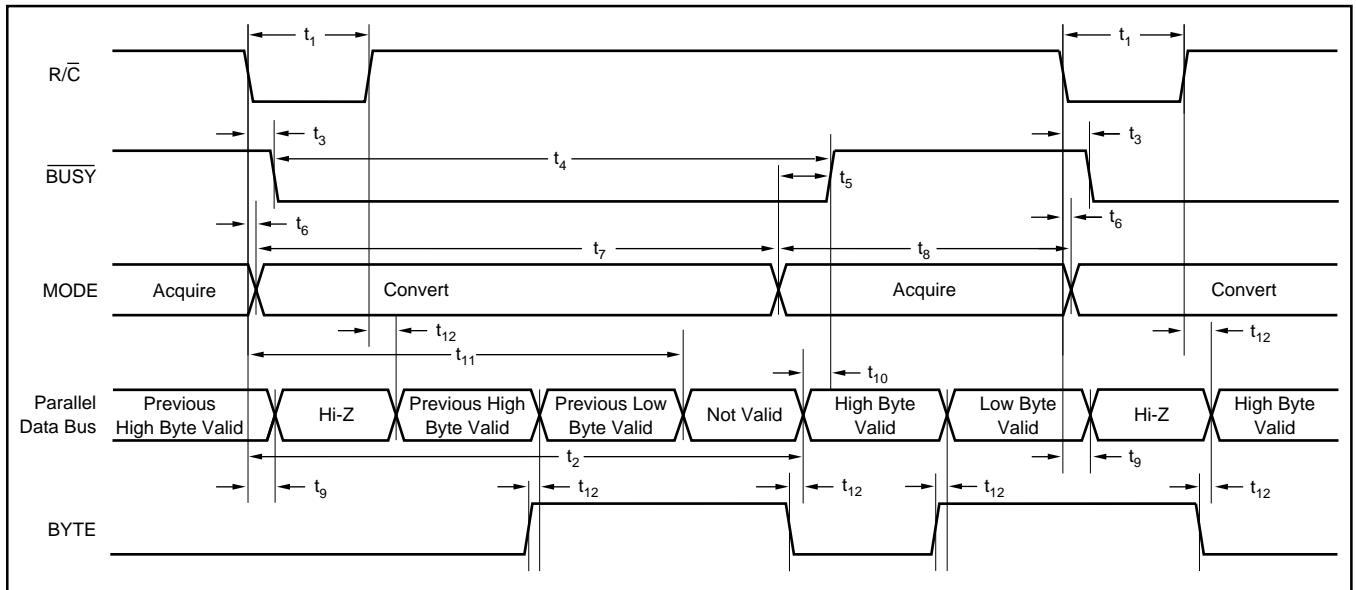

FIGURE 2. Conversion Timing with Parallel Output ($\overline{\text{CS}}$ and DATACLK tied LOW, $\overline{\text{EXT/INT}}$ tied HIGH).
The ADS7806 will begin tracking the input signal at the end of the conversion. Allowing 25µs between convert commands assures accurate acquisition of a new signal. Refer to Tables II and III for a summary of CS, R/C, and BUSY states, and Figures 2 through 6 for timing diagrams.
NOTE: (1) See Figures 2 and 3 for constraints on data valid from conversion 'n - 1'.
After conversion 'n' is completed and the output registers have been updated, $\overline{\text{BUSY}}$ (pin 24) will go HIGH. Valid data from conversion 'n' will be available on D7-D0 (pins 9-13 and 15-17). $\overline{\text{BUSY}}$ going high can be used to latch the data. Refer to Table V and Figures 2 and 3 for timing constraints.
After conversion 'n' has been initiated, valid data from conversion 'n - 1' can be read and will be valid up to 12µs after the start of conversion 'n'. Do not attempt to read data beyond 12µs after the start of conversion 'n' until $\overline{\text{BUSY}}$ (pin 24) goes HIGH; this may result in reading invalid data. Refer to Table V and Figures 2 and 3 for timing constraints.